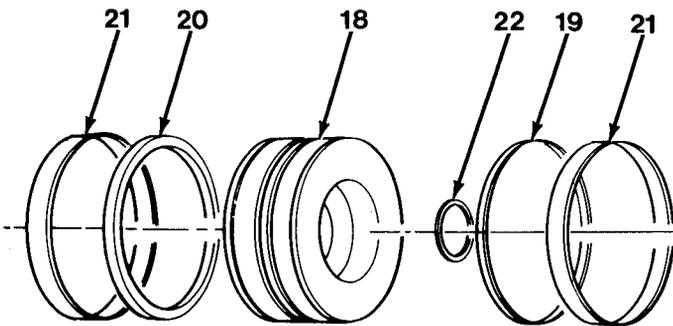

Figure 13-7
3. Install back-up ring (24) and O-ring (23) on outside diameter of gland (14).
4. Install O-ring (22) on inside diameter of piston (18, Figure 13-7).